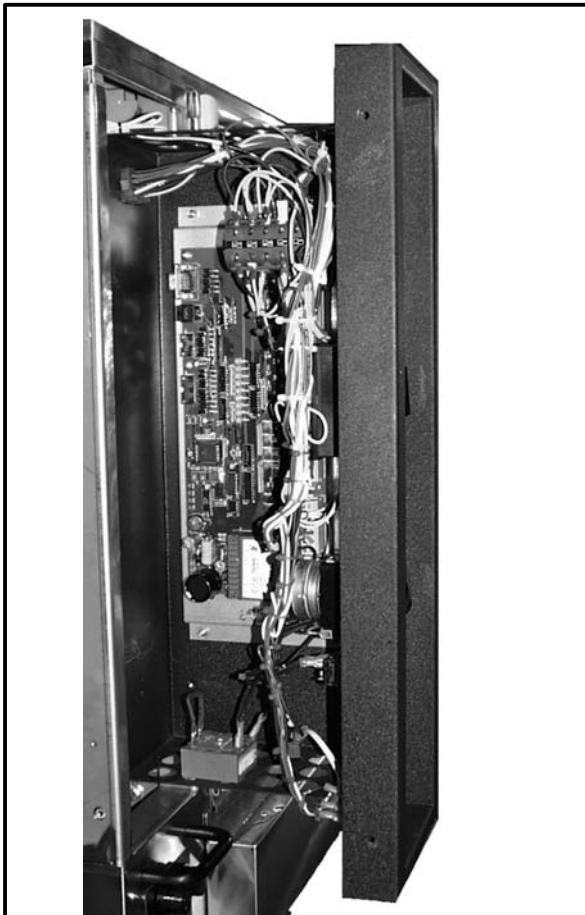

Figure 29
2. Remove the two screws located on the side panel. Slide the control module forward. See Figure 29.